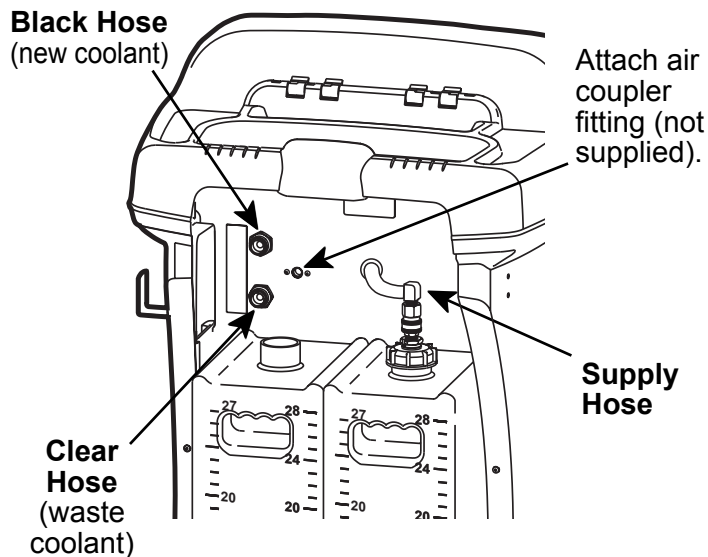

Figure 1
1. Attach the black hose (new coolant) to the top coupler on the upper left side of the unit's rear panel. The decal next to the coupler is marked "Coolant Outlet to Car." See Figure 1.
4. Attach the supply hose coupler to the dip tube cap as shown in Figure 1.